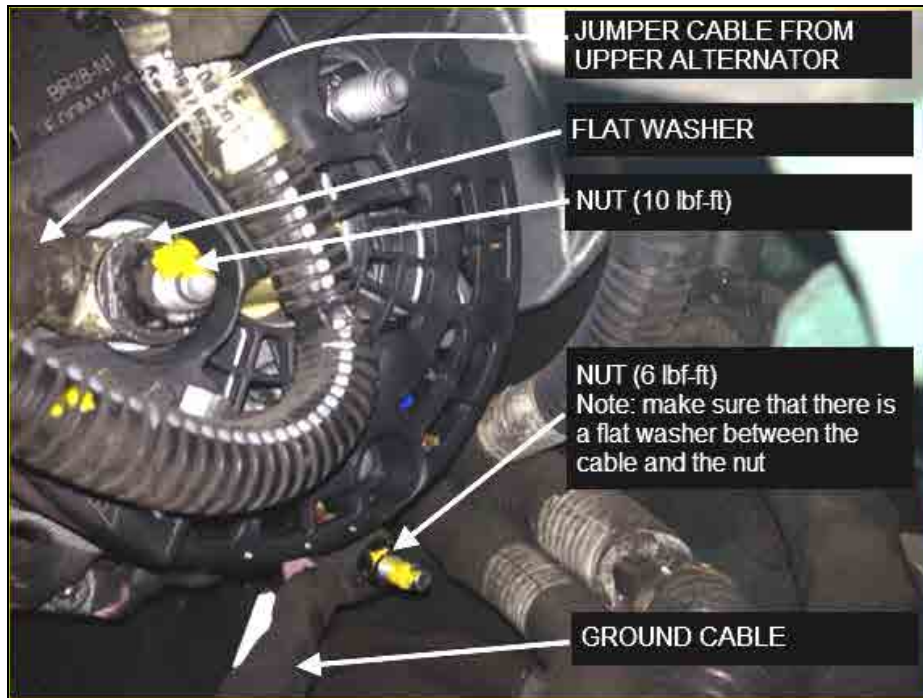

FIGURE 28
- a) Fit jumper cable (positive cable) onto **B1+** stud terminal on lower alternator (FIGURE 28).
- b) Place one new flat washer #5001341 against the cable ring terminal and screw new nut #5001787 (nut torque: 10 lbf-ft) (FIGURE 28).
- c) Fit the ground cable onto the alternator ground stud, place one new flat washer #502573 against the ground cable ring terminal and screw a new nut #5001182 (nut torque: 6 lbf-ft) (FIGURE 28).